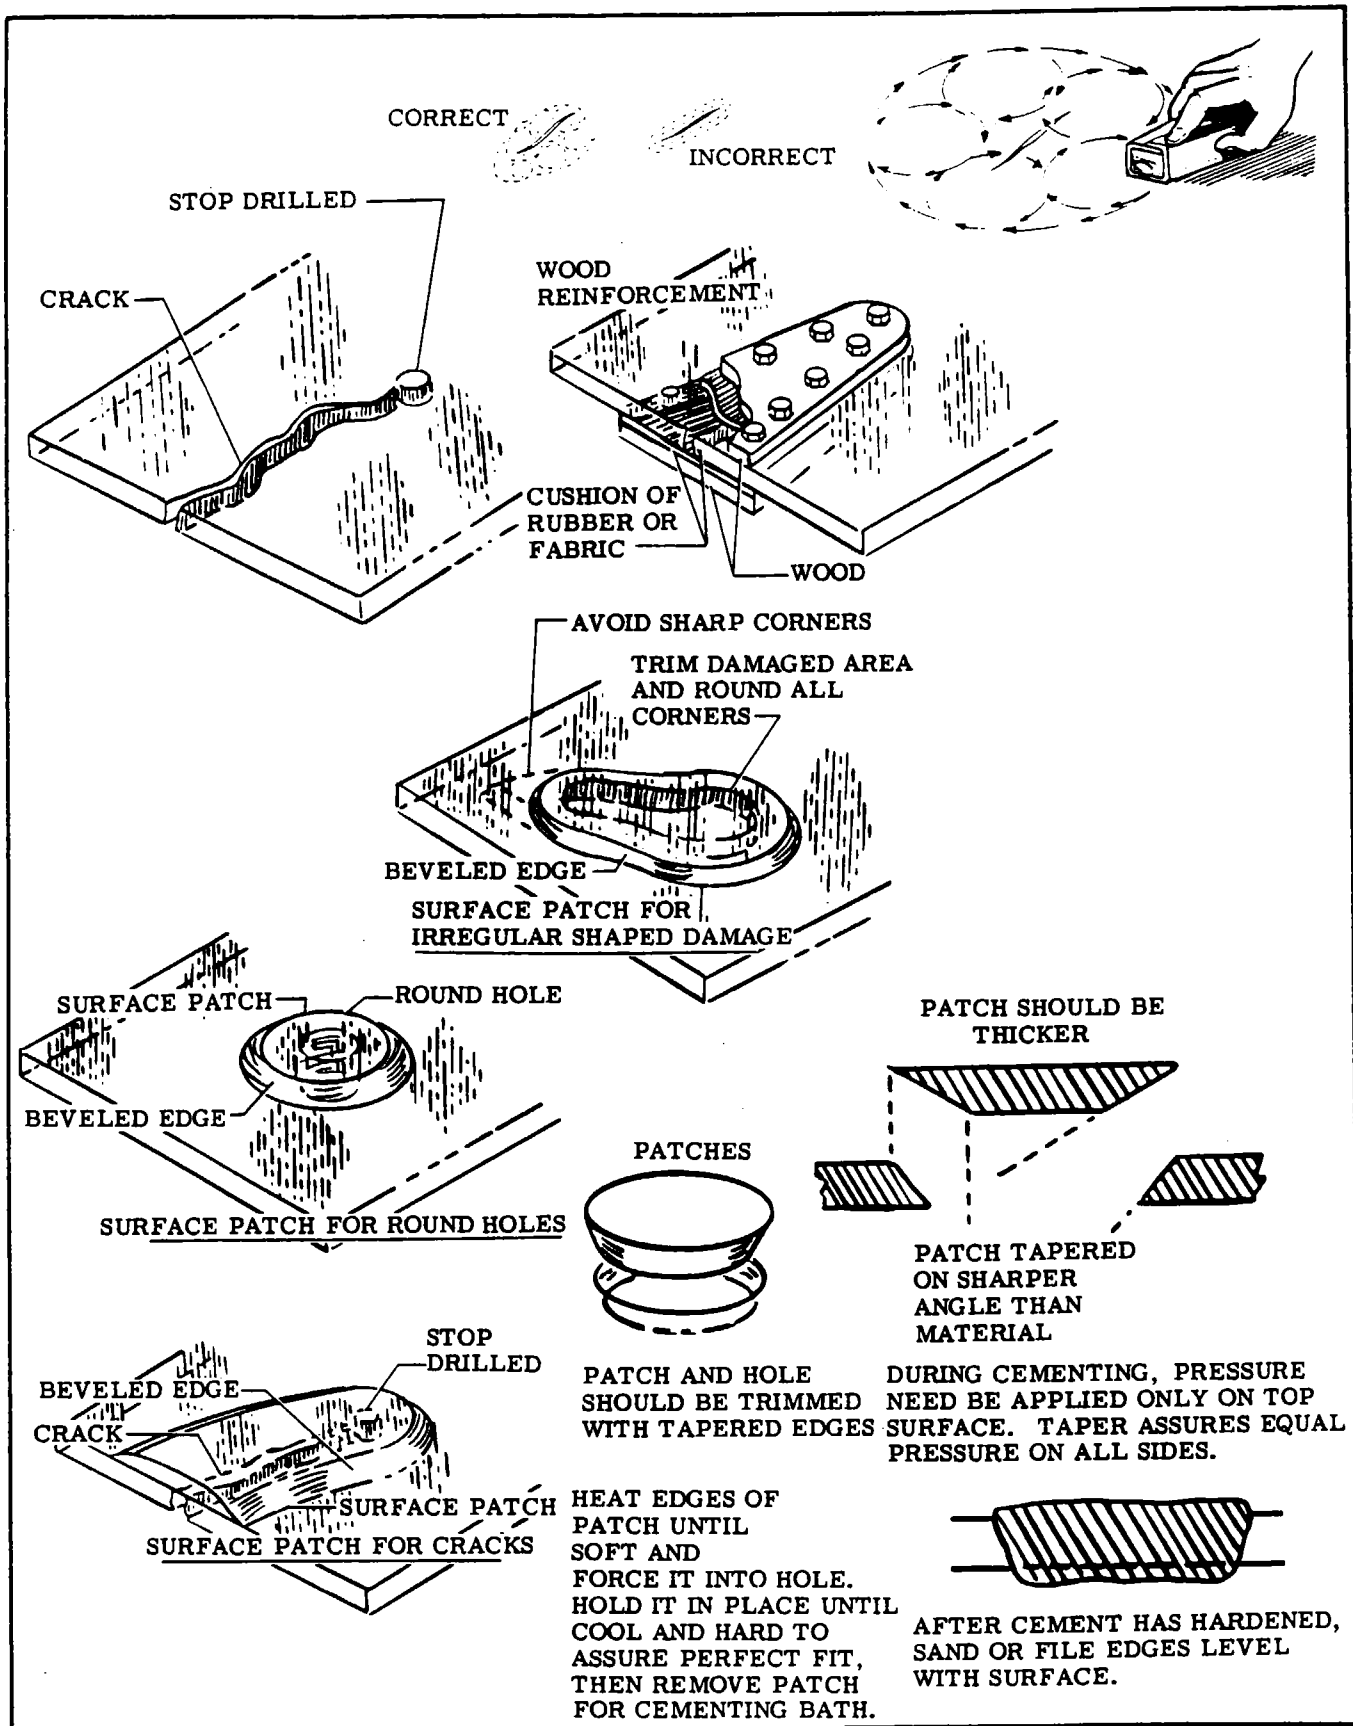

Figure 3-1. Repair of Windshields and Windows
3-6. **REPAIR.** Replace extensively damaged transparent plastic rather than repair whenever possible, since even a carefully patched part is not the equal of a new section, either optically or structurally. At the first sign of crack development, drill a small hole at the extreme end of the crack as shown in figure 3-1. This serves to localize the cracks and to prevent further splitting by distributing the strain over a large area. If the cracks are small, stopping them with drilled holes will usually suffice until replacement or more permanent repair can be made. The following repairs are permissible; however, they are not to be located in the pilot's line of vision during landing or normal flight.
a. **SURFACE PATCH.** If a surface patch is to be installed, trim away the damaged area and round all corners. Cut a piece of plastic of sufficient size to cover the damaged area and extend at least 3/4-inch on each side of the crack or hole. Bevel the edges as shown in figure 3-1. If the section to be repaired is curved, shape the patch to the same contour by heating it in an oil bath at a temperature of 248° to 302°F., or it may be heated on a hot plate until soft. Boiling water should not be used for heating. Coat the patch evenly with plastic solvent adhesive and place immediately over the hole. Maintain a uniform pressure of from 5 to 10 psi on the patch for a minimum of three hours. Allow the patch to dry 24 to 36 hours before sanding or polishing is attempted.
b. **PLUG PATCH.** In using inserted patches to repair holes in plastic structures, trim the holes to a perfect circle or oval and bevel the edges slightly. Make the patch slightly thicker than the material being repaired, and similarly bevel the edges. Install patches in accordance with procedure illustrated in figure 3-1. Heat the plug until soft and press into the hole without cement and allow to cool to make a perfect fit. Remove the plug, coat the edges with adhesive, and then reinsert in the hole. Maintain a firm light pressure until the cement has set, then sand or file the edges level with the surface; buff and polish.
3-8. **CRACKS.** (See figure 3-1.)